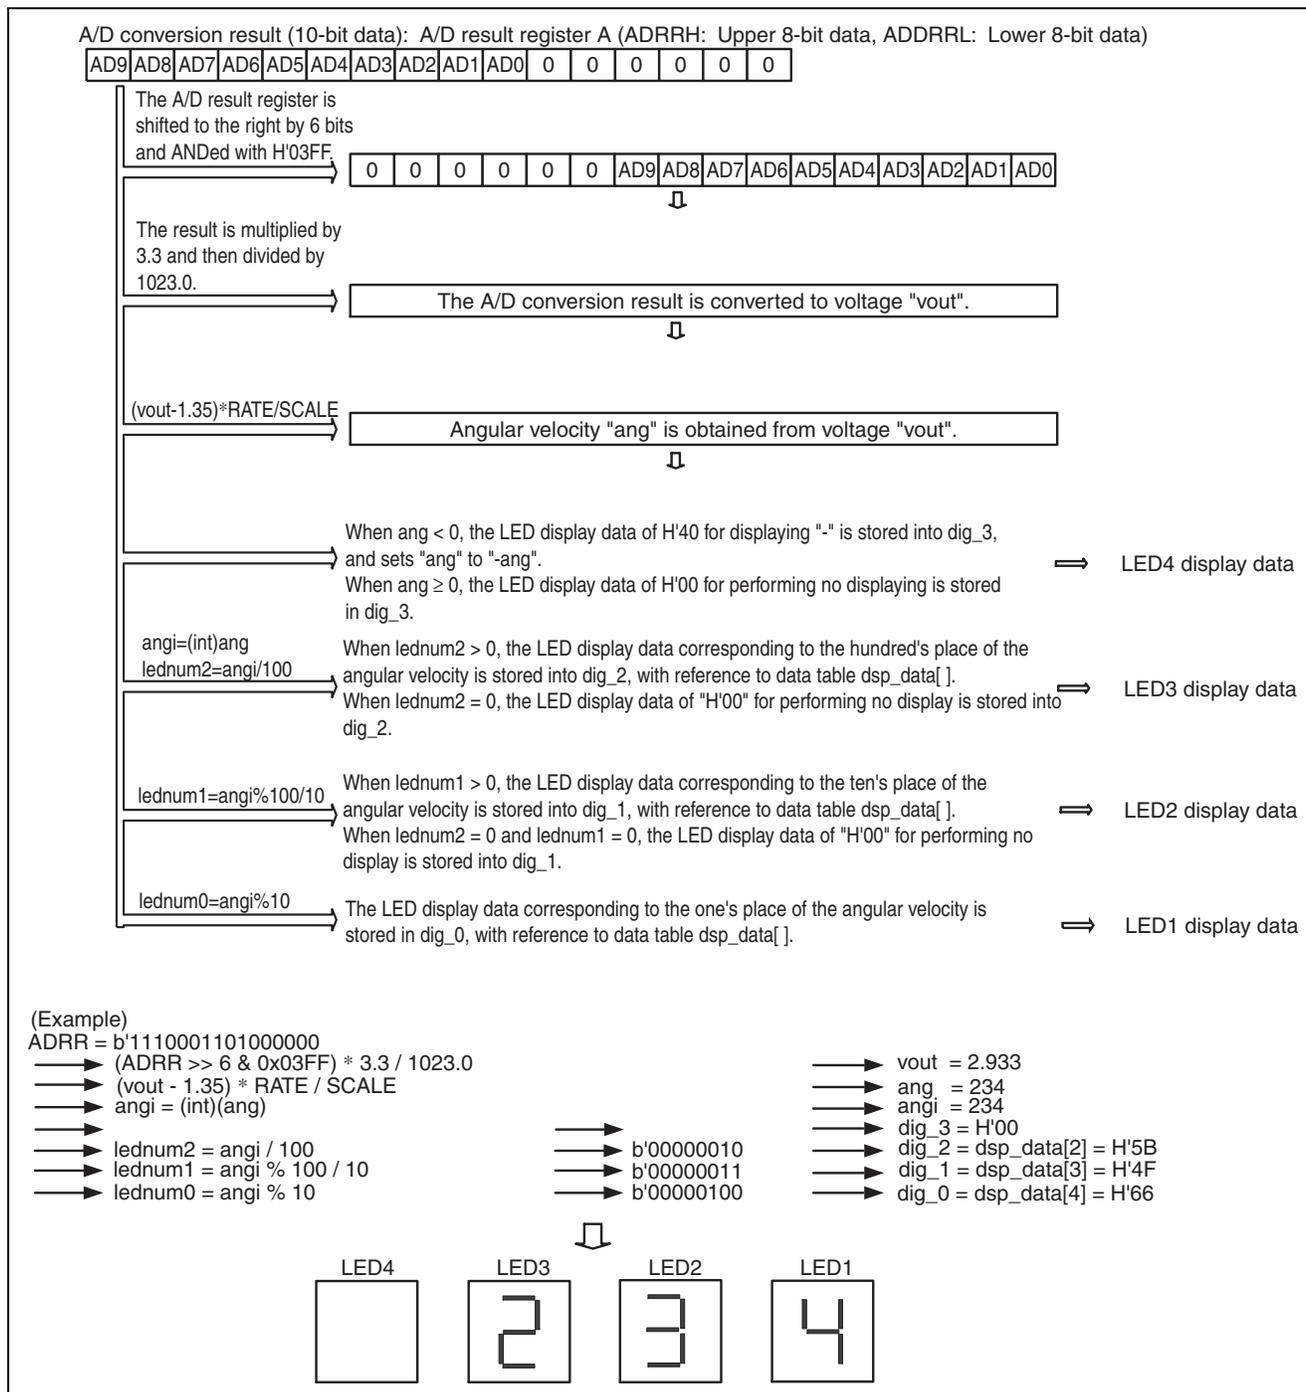

Figure 4 Display of Angular Velocity on the LEDs
9. In this sample task, a decimal angular velocity (deg/sec) is displayed on the 7-segment LEDs. Figure 4 illustrates how the angular velocity is displayed on the LEDs.